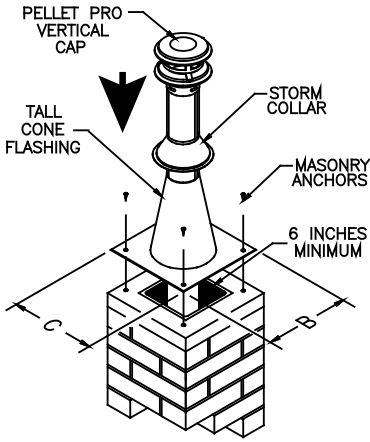

Figure 23
11. For support at the termination of the PelletVent, use a Tall Cone Flashing, and a Storm Collar. This will require 14 inches of pipe above the top of the masonry chimney. Pull the pipe up through the flashing to the desired height. Mark location of the Storm Collar. Slip the Storm Collar down over the pipe and affix it to the pipe with a 1/4"-long stainless steel sheet metal screw (Figures 23 & 24). The Storm Collar will then support the entire vent system. Install the Cap. Seal the joint at the Storm Collar, and any other joints or seams which may appear suspect. (Figure